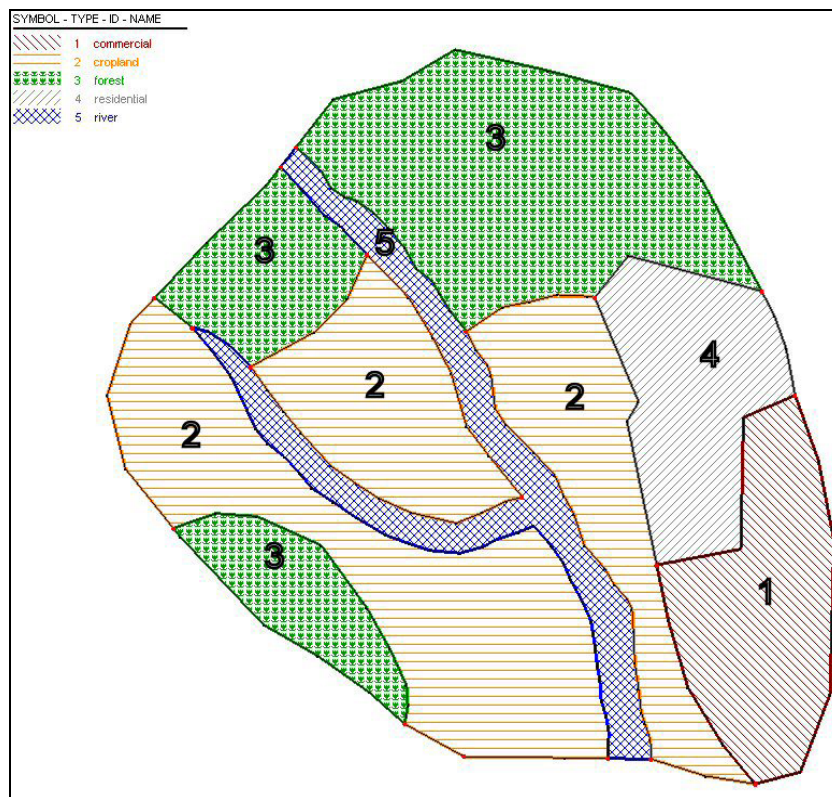

Figure 4-5: Materials used in HEC-RAS Simulation
13. Double-click on the polygon that defines the river area (see Figure 4-5)
16. Using Figure 4-5 as a guide, define material types for the remaining polygons (remember you can also double-click on a polygon to bring up the attributes dialog)